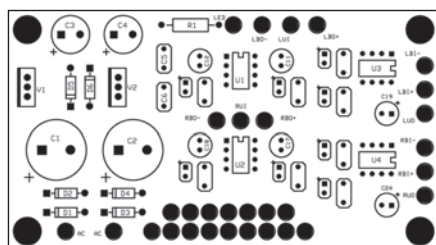

FIGURE 3: Components with pins and text.
- A component layout diagram with pins as shown in **Fig. 3**.